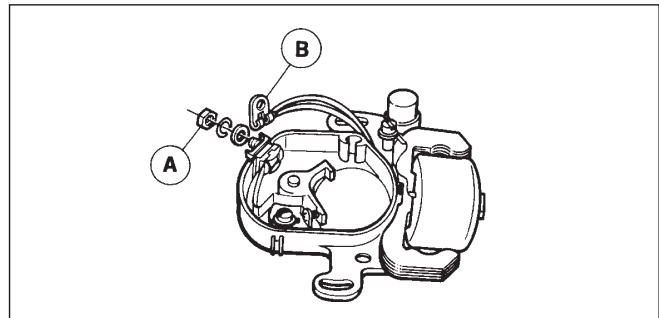

Fig. 7
- Remove nut '**A**' securing terminal to breaker points. (Fig 7).